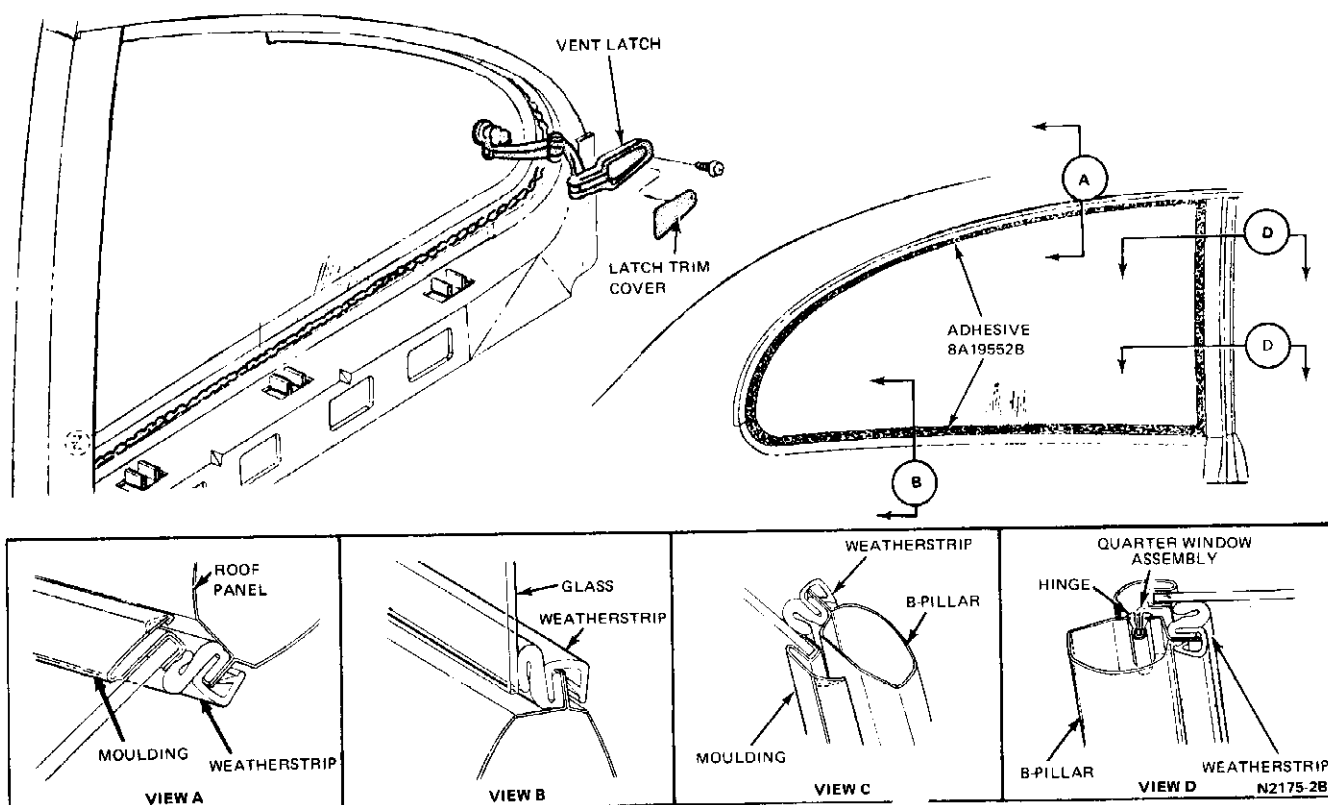

FIG. 1 Quarter Vent Window—Pinto and Bobcat (Except Wagon)
1. Remove the latch trim cover (Fig. 1).